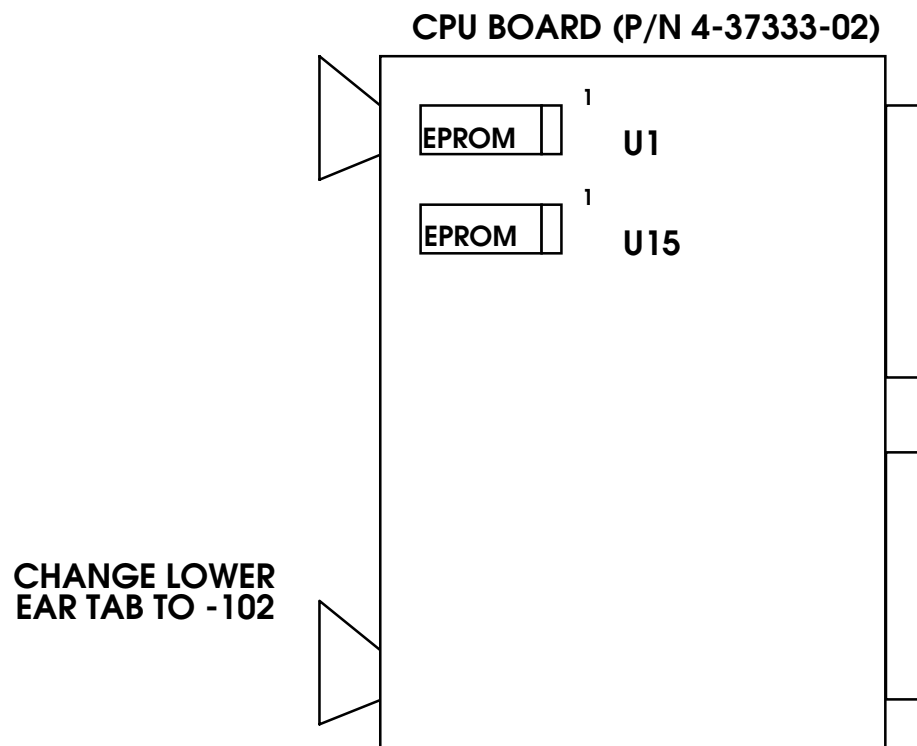

Figure 1
3. Remove the two EPROMS from sockets U1 (Label will be 37706-103, U1) and U15 (Label will be 37706-104, U15) on the CPU board (refer to figure 1 for location).